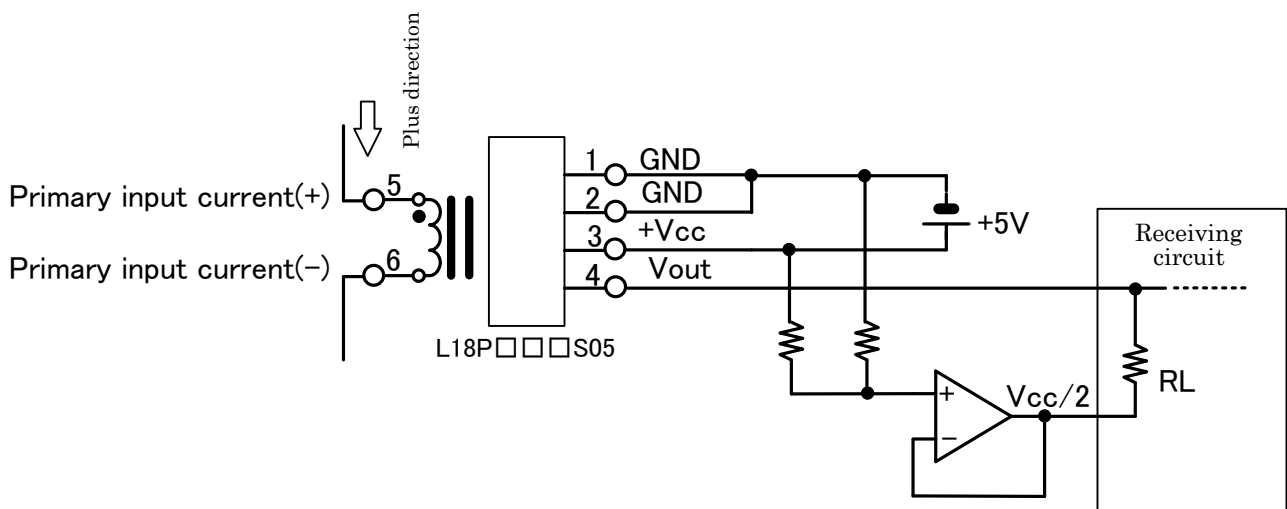

Fig. 6: L18P□□□S05 Standard circuit
□ Description of Fig. 6
This current sensor converts measured current into a voltage. The output voltage V_{out} (4) in Fig. 6 is output on the basis of the $V_{cc}/2$ potential. When the current to be measured is 0, V_{out} (4) = $V_{cc}/2$. When the current to be measured is in the plus direction ((5) \Rightarrow (6)), V_{out} (4) becomes $(V_{cc}/2) + (\text{voltage converted from the measured current})$. When the current to be measured is in the minus direction ((6) \Rightarrow (5)), V_{out} (4) becomes $(V_{cc}/2) - (\text{voltage converted from the measured current})$.
$R_L = 10 \text{ k}\Omega$ in Fig. 6 is the equivalent resistance of the receiving circuit of the current sensor output V_{out} (4). Connect between V_{out} terminal (4) and reference potential ($V_{cc}/2$).